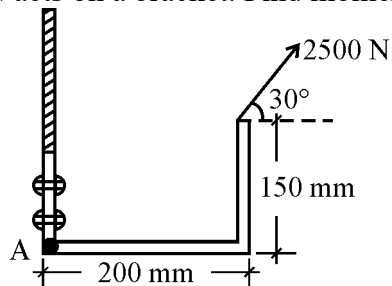

Fig. 1
- (c) A force of 2500 N acts on a bracket. Find moment of this force at 'A' (Fig. 1).